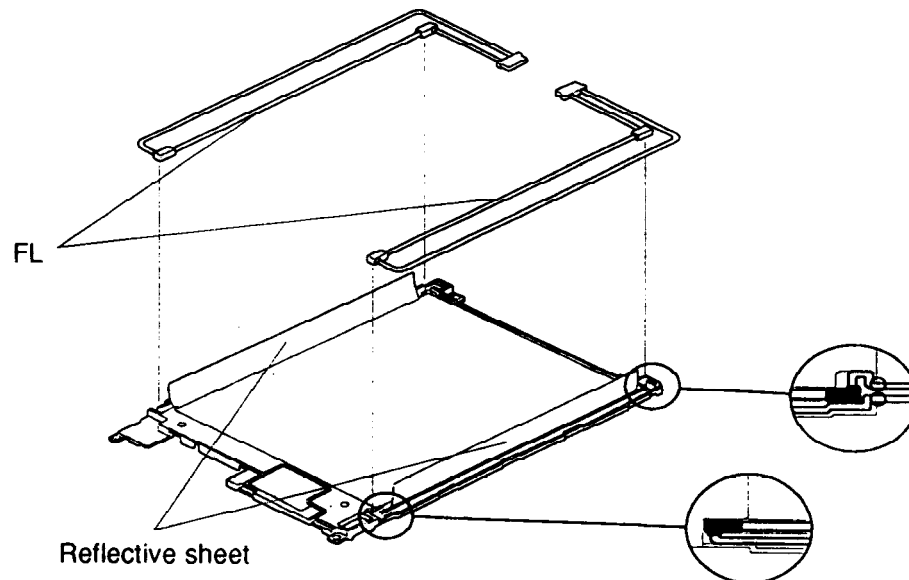

Figure 4-31 Removing the FL
6. Lift out the **FL** (Figure 4-31).
1. Place the **FL** on the **FL unit** and cover the FL using the reflective sheet (Figure 4-31).